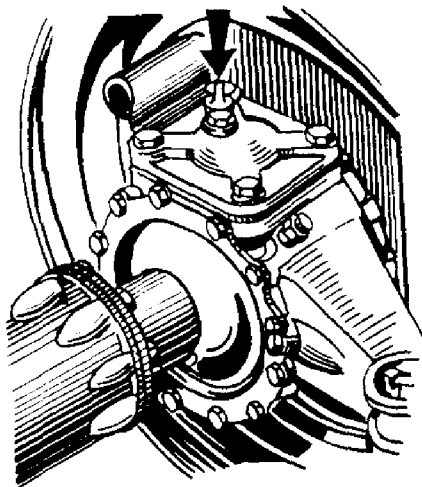

FIG.34. LUBRICATING POINT FOR AM LUBRICANT USED IN FRONT AXLE SHAFT JOINT AND KING PIN BEARINGS OF ЗМЛ-131 TRUCK
42. Add the AM grease, GOST 5730-51 (Fig.34) into the front wheel ball support through the lubrication fitting until the grease is forced out of the check hole, prior to lubricating, remove the plug.